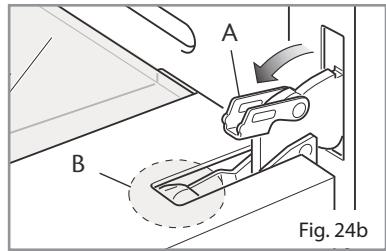
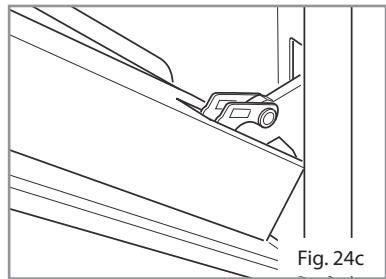

Fig. 24b
Fig. 24c
- Open the lever "A" completely on the left and right hinges (Fig. 24b).
- Gently close the door (fig. 24c) until left and right hinge levers "A" are hooked to part "B" of the door (fig. 24b).